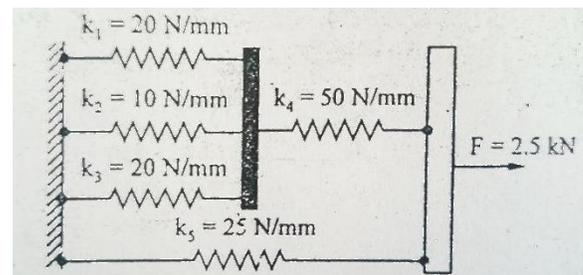

Fig.3
5. system of spring as shown in fig.3 determine the overall stiffness matrix and determine deformation of each spring.